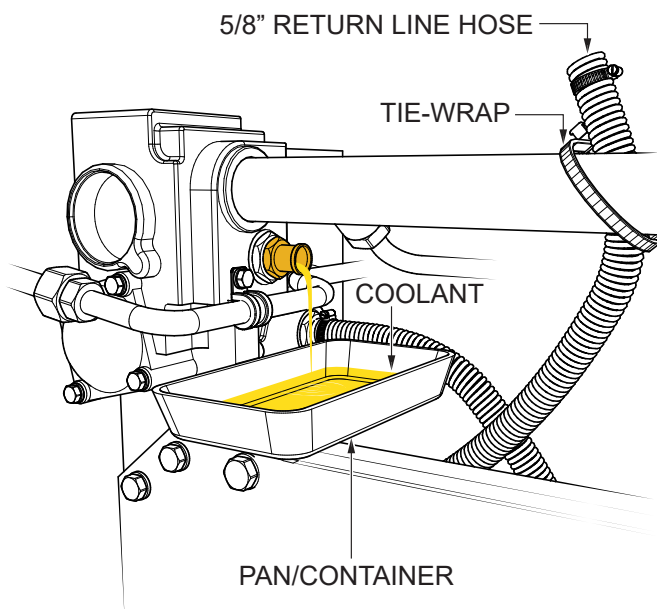

Figure 5. DEF Tank 5/8" Return Line Hose Removal (Engine Block Side)
2. Next, **remove** the return line hose from the 5/8" **BRASS** barb fitting and place a pan or suitable container (Figure 5) underneath the fitting to let the fluid drain into.
3. Using a tie-wrap, secure the return line hose in an upright position as shown in Figure 5 to keep the fluid from spilling.